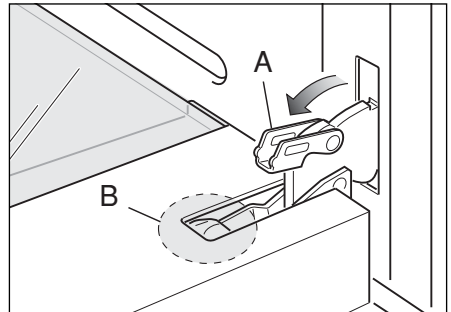
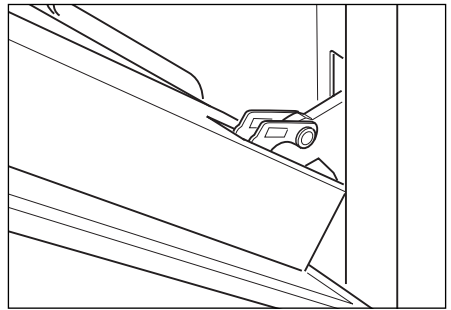

Fig.44b
Fig.44c
- Fully open the lever "A" on the left and right hinges (Fig 44b).
- Gently close the door (Fig. 44c) until the left and right hinges are hooked to part "B" of the door (Fig. 44b).